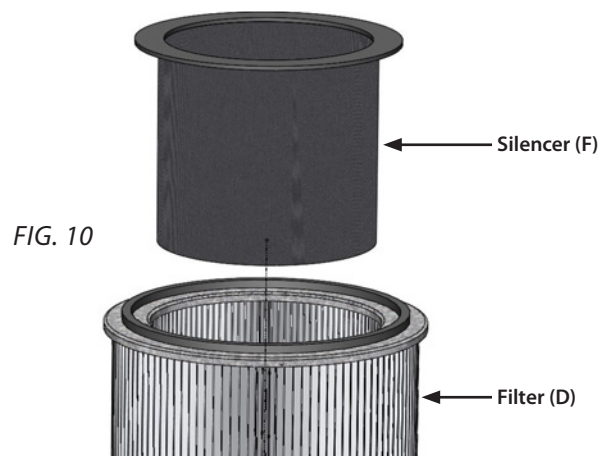

FIG. 10
- 9** Insert the Drop-In Silencer (F) into the top of the larger Filter (D) as in [FIG. 10].